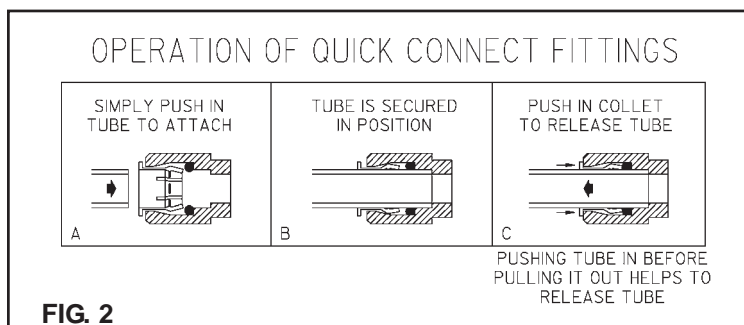

FIG. 2
9. Connect fountain to supply line with a shut-off valve and install a 3/8" unplated copper water line between the valve and the cooler. Remove any burrs from outside of water line. Push the tubes straight into the fittings until they reach a positive stop, approximately 3/4" (See Fig. 2). DO NOT SOLDER TUBES INSERTED INTO THE STRAINER AS DAMAGE TO THE O-RINGS MAY RESULT.
Fountain is provided with lead-free connectors which utilize an o-ring water seal. To remove tubing from the fitting, relieve water pressure, push in on the gray collar while pulling on the tubing. (see Fig.2) To insert tubing, push tube straight into fitting until it reaches a positive stop, approximately 3/4".